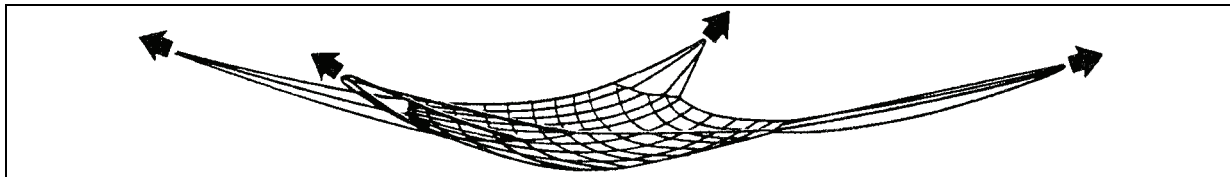

Figure 7-5. Fully Extended Net
- Spread the net out on the ground. Have four persons pull evenly on each of the four lifting legs to open the net to its fullest extension over the spot where the net is to be loaded (Figure 7-5). This will prevent the net from shifting under the pallets or load when the helicopter lifts the net.